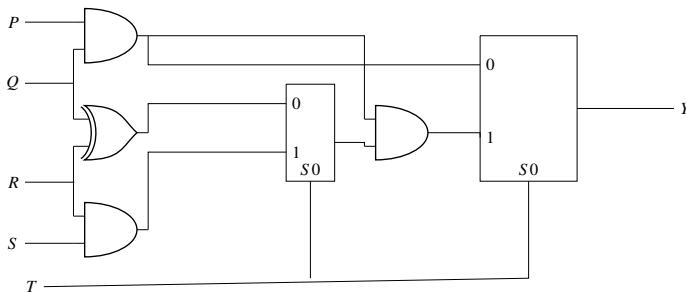

Fig. 3.17
33. The circuit shown in Fig. 3.17 comprises of XOR, AND gates and multiplexers. If all the inputs P, Q, R, S and T are applied simultaneously and held constant, find Y .